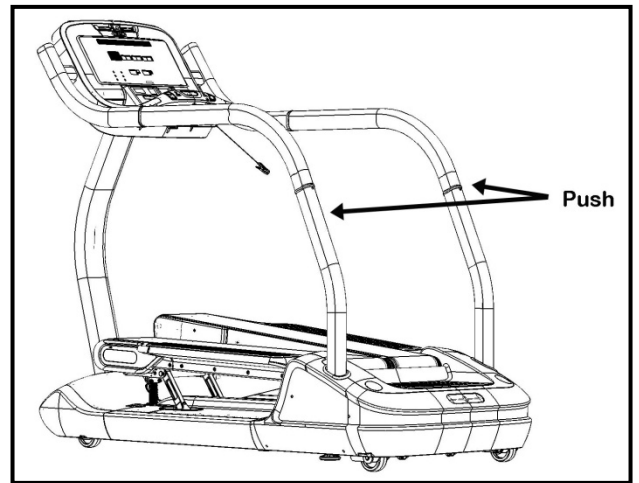

Fig. 30
28. Transport/push (Fig. 30) the TreadClimber® to its final location by rolling it into position.